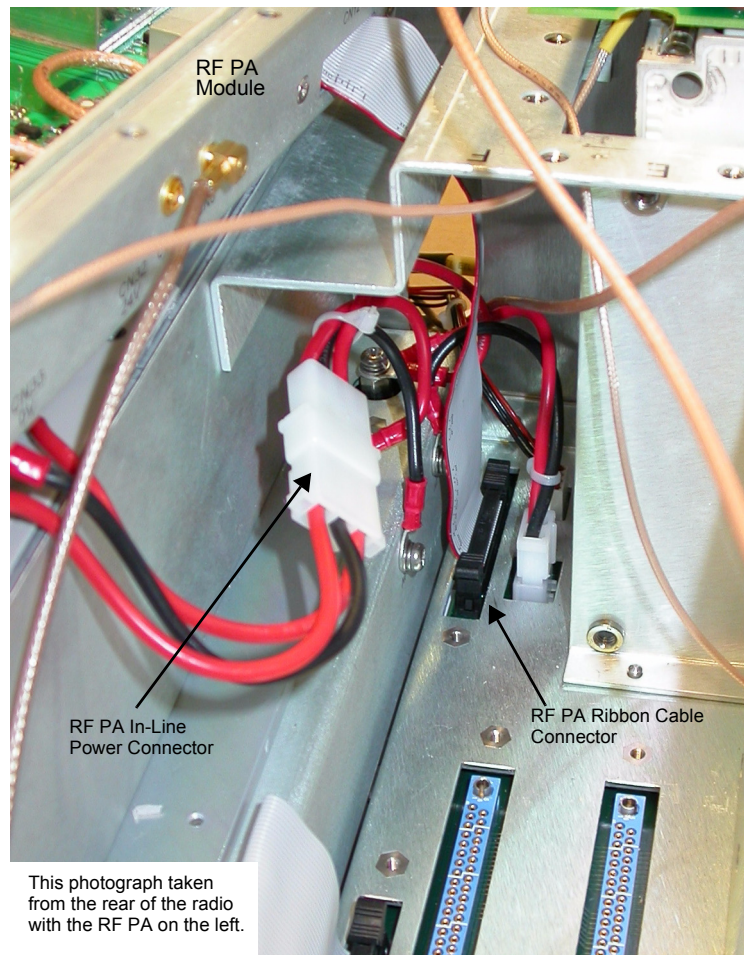

Fig 5-20 RF PA Power and Ribbon Cable Connections
- (6) Looking from the rear of the radio, identify the RF PA 3-way power connector as shown in Fig 5-20. Separate the in-line connector.
- (7) Looking from the rear of the radio, identify the ribbon cable that connects from the RF PA module to a chassis mounted connector as shown in Fig 5-20. Disconnect the ribbon cable from the chassis connector.